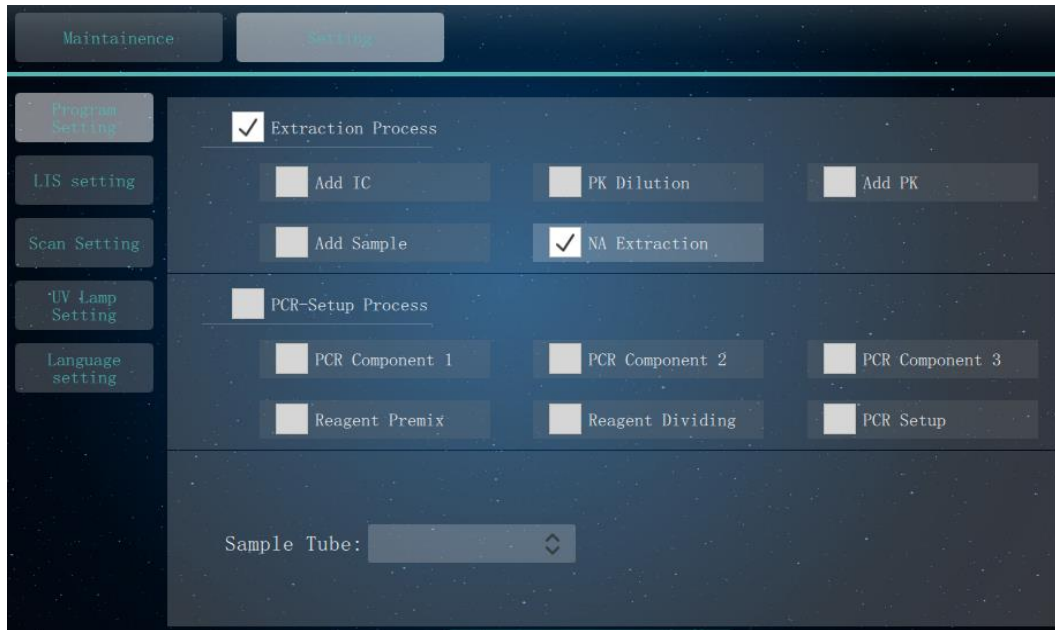

Figure 5-14a. Setting Subtab – Program Setting
1. < **Program Setting** >: User can click this function key to set the experiment program setups. User can check the corresponding check box to select the setup(s) included in the experiment program, as shown in figure 5-14a.